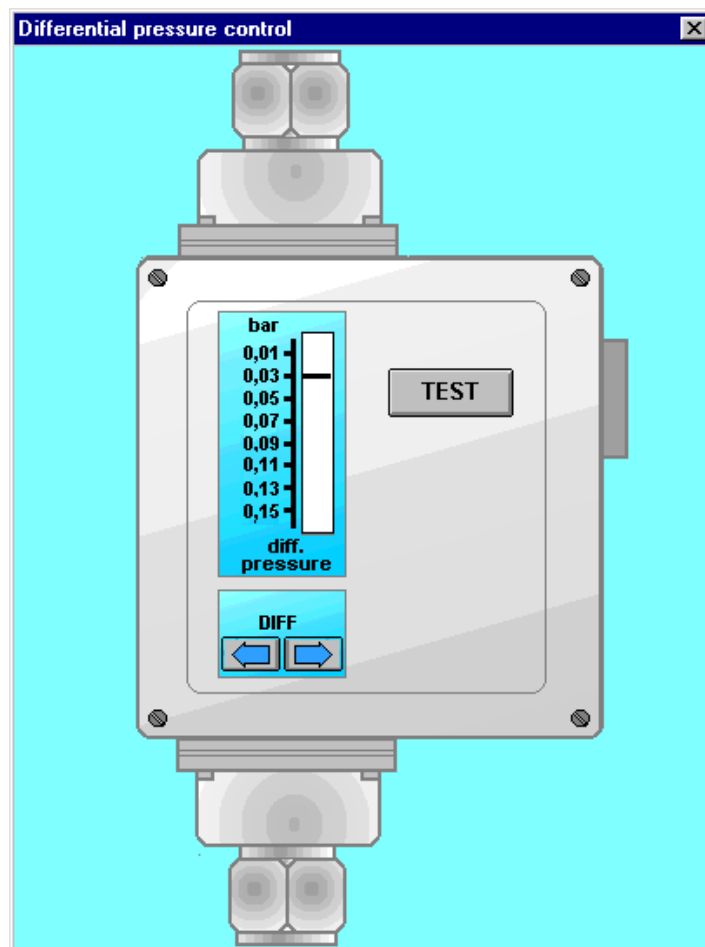

Fig. 5.6 Differential pressure control diagram /DPC/
7. It is possible to check the functioning of the differential pressure control DPC by mouse clicking on the button **TEST** (placed on the diagram, over DPC Fig. 5.6). The compressor should stop and start after **TEST** button release.
The difference between the oil pump compression pressure and compressor suction pressure is set by mouse clicking in the arrow field on DPC scale Fig. 5.6. In order to check whether the DPC is properly functioning, press the button **TEST** over DPC symbol, while the compressor is running. The compressor stops for a while, but after releasing the button **TEST** it starts again.